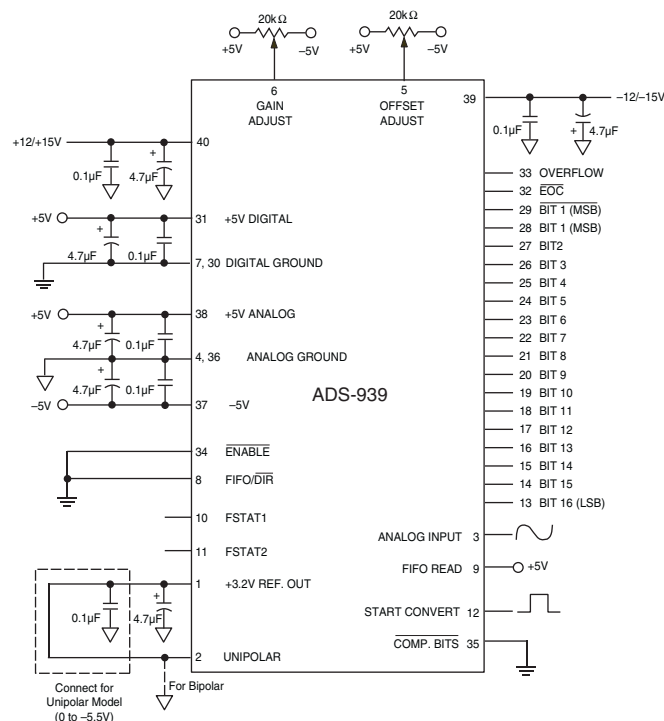

Figure 2. Connection Diagram
- The ADS-939A achieves its specified accuracies without the need for external calibration. If required, the device's small initial offset and gain errors can be reduced to zero using the adjustment circuitry shown in Figure 2. When using this circuitry, or any similar offset and gain calibration hardware, make adjustments following warm-up. To avoid interaction, always adjust offset before gain. Tie pins 5 and 6 to ANALOG GROUND (pin 4) if not using offset and gain adjust circuits.
Connect the converter per Figure 2. Any offset/gain calibration procedures should not be implemented until the device is fully warmed up. To avoid interaction, adjust offset before gain. The ranges of adjustment for the circuits in Figure 2 are guaranteed to compensate for the ADS-939's initial accuracy errors and may not be able to compensate for additional system errors.